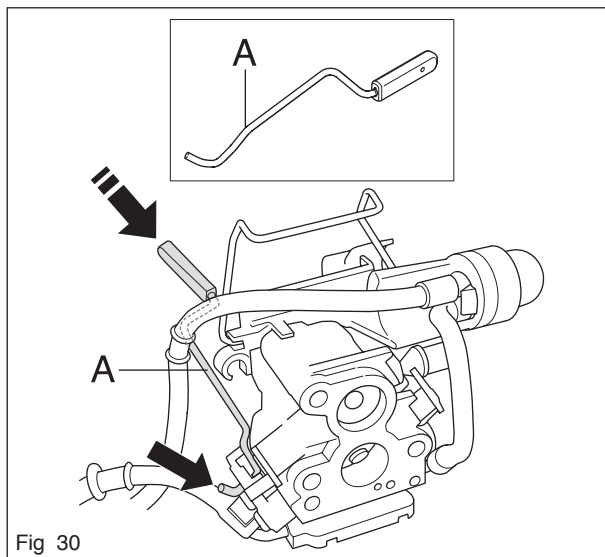

Fig 30
3. Push the throttle actuator rod out of the handle part. Unhook it from the carburettor (see figure 30).